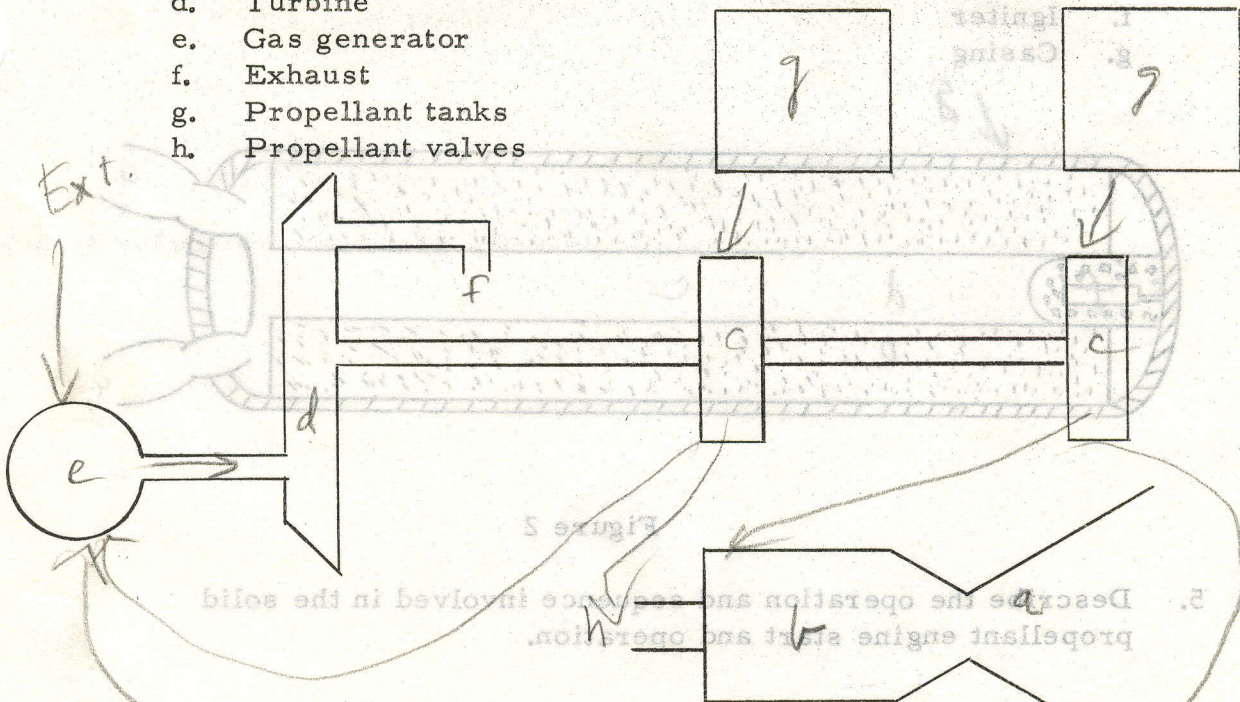

Figure 1
1. Label Figure 1 to include the following:
2. Use Figure 1 and draw the propellant flow in red and the hot gas flow in blue. Include a labeled bootstrap system on the diagram.
3. Explain the operation of the system shown in Figure 1 to include a start system.